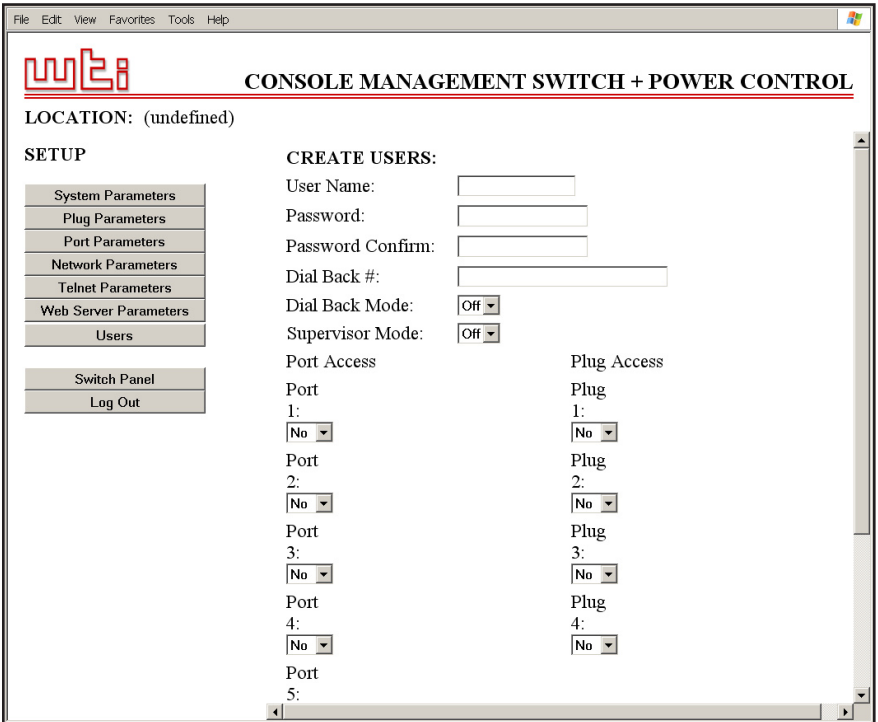

Figure 5.7: The Create Name/Password Menu (Web Browser Interface)
- **Web Browser Interface:** Click the "Setup" button to access the Setup Menus, and then click the "Users" button. From the Password Directory Menu, click the "Create Users" button to define new user accounts. The Create User Menu will be displayed as shown in Figure 5.7.